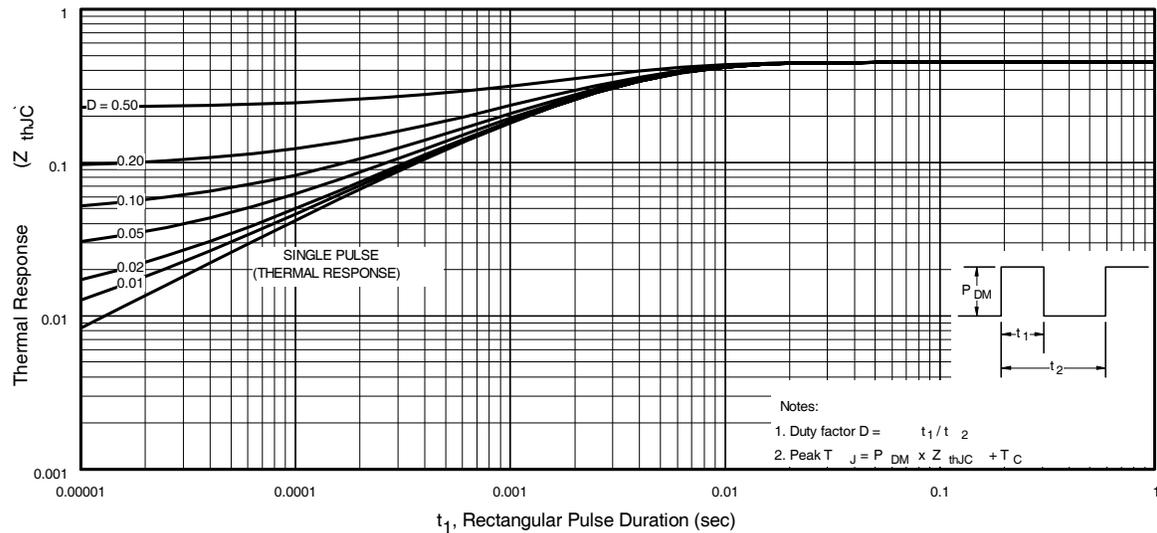

Fig 11. Maximum Effective Transient Thermal Impedance, Junction-to-Case
- ① Repetitive rating; pulse width limited by max. junction temperature. (See fig. 11).
- ② Starting T_J = 25°C, L = 0.13mH
$Z_{thJC}(D, t_{av})$ = Transient thermal resistance, see figure 11)